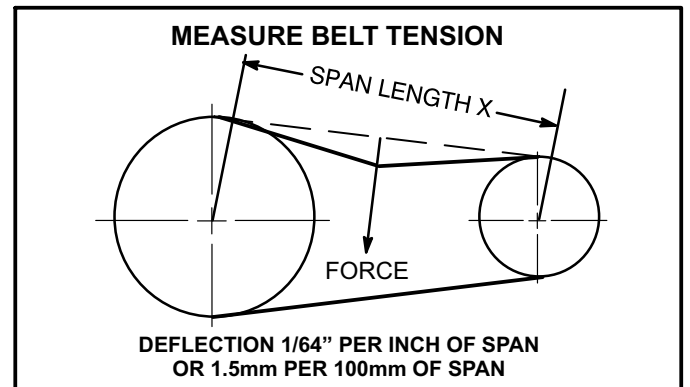

FIGURE 15
1. Measure span length X. See figure 15.
2. Apply perpendicular force to center of span (X) with enough pressure to deflect belt  $1/64$ " for every inch of span length or 1.5mm per 100mm of span length.